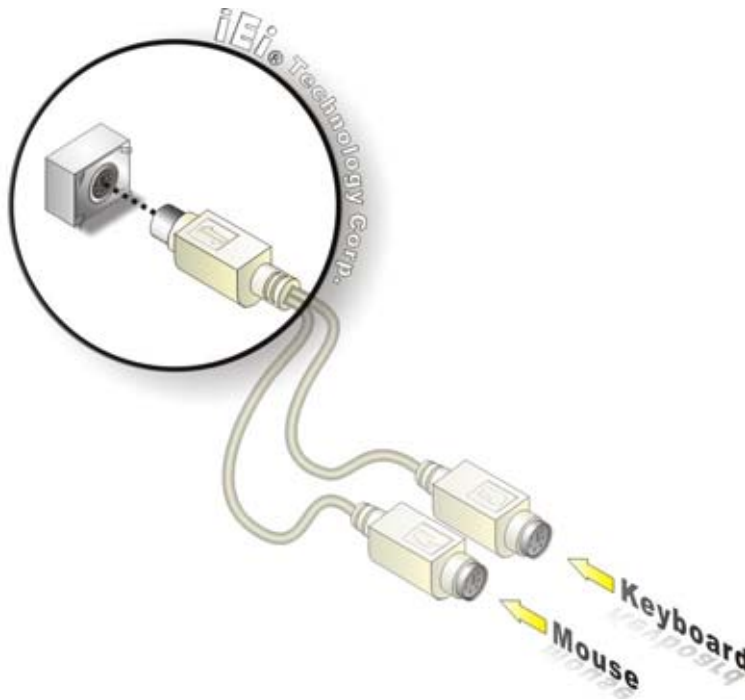

Figure 5-13: PS/2 Keyboard/Mouse Connector
Step 2: Insert the keyboard/mouse connector. Insert the PS/2 connector on the end of the PS/2 y-cable into the external PS/2 connector. See **Figure 5-13**.